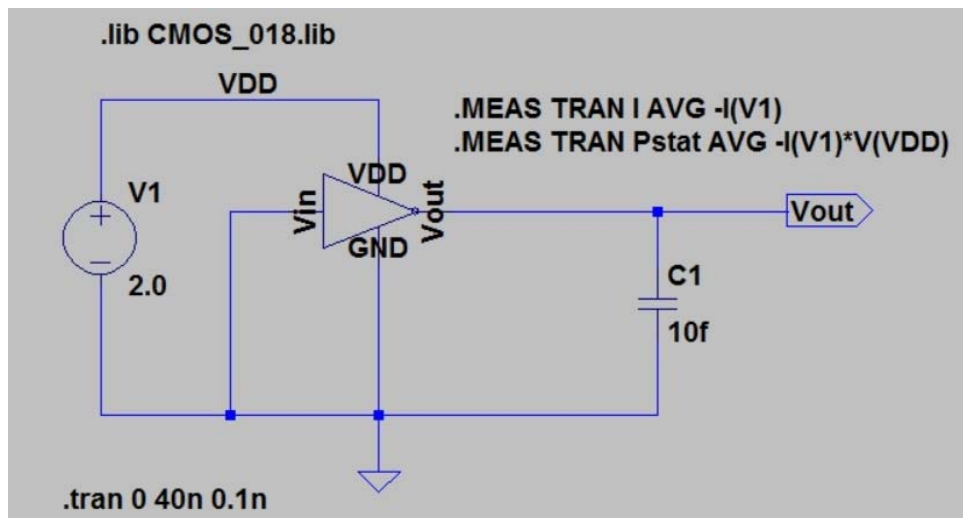

Figure 37. Test bench for static power consumption
- Connect **V2** to **ground**, and add **.MEAS** commands as Figure 37.